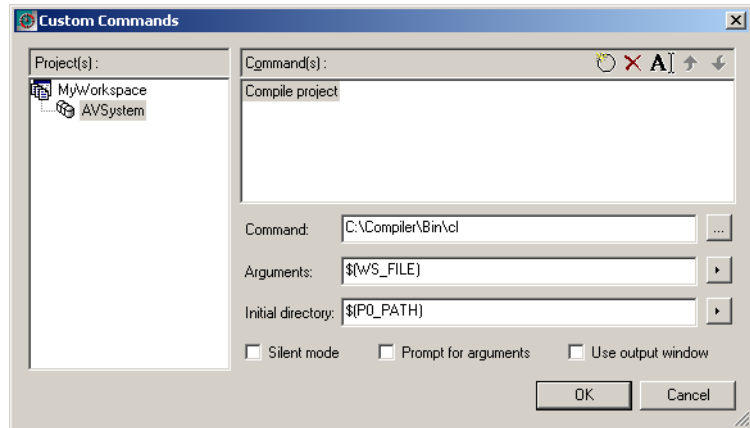

Figure 28: Custom commands dialog box (Navigator)
- 2 On the menu, choose Tools>Custom Commands. A Custom Commands dialog box is displayed. See *Figure 28*, page 42.
Selecting `Project File` for the first Project in the workspace will insert the macro `$(P0_FILE)` in the Arguments field of the Custom Commands dialog box (see *Figure 28*, page 42). When the custom command is activated, `$(P0_FILE)` is expanded to the name of the first Project file in the workspace, for example `Project.vsp`.
- 1 On the menu, choose **Tools>Custom Commands**. The Custom Commands dialog box is displayed. See *Figure 28*, page 42.